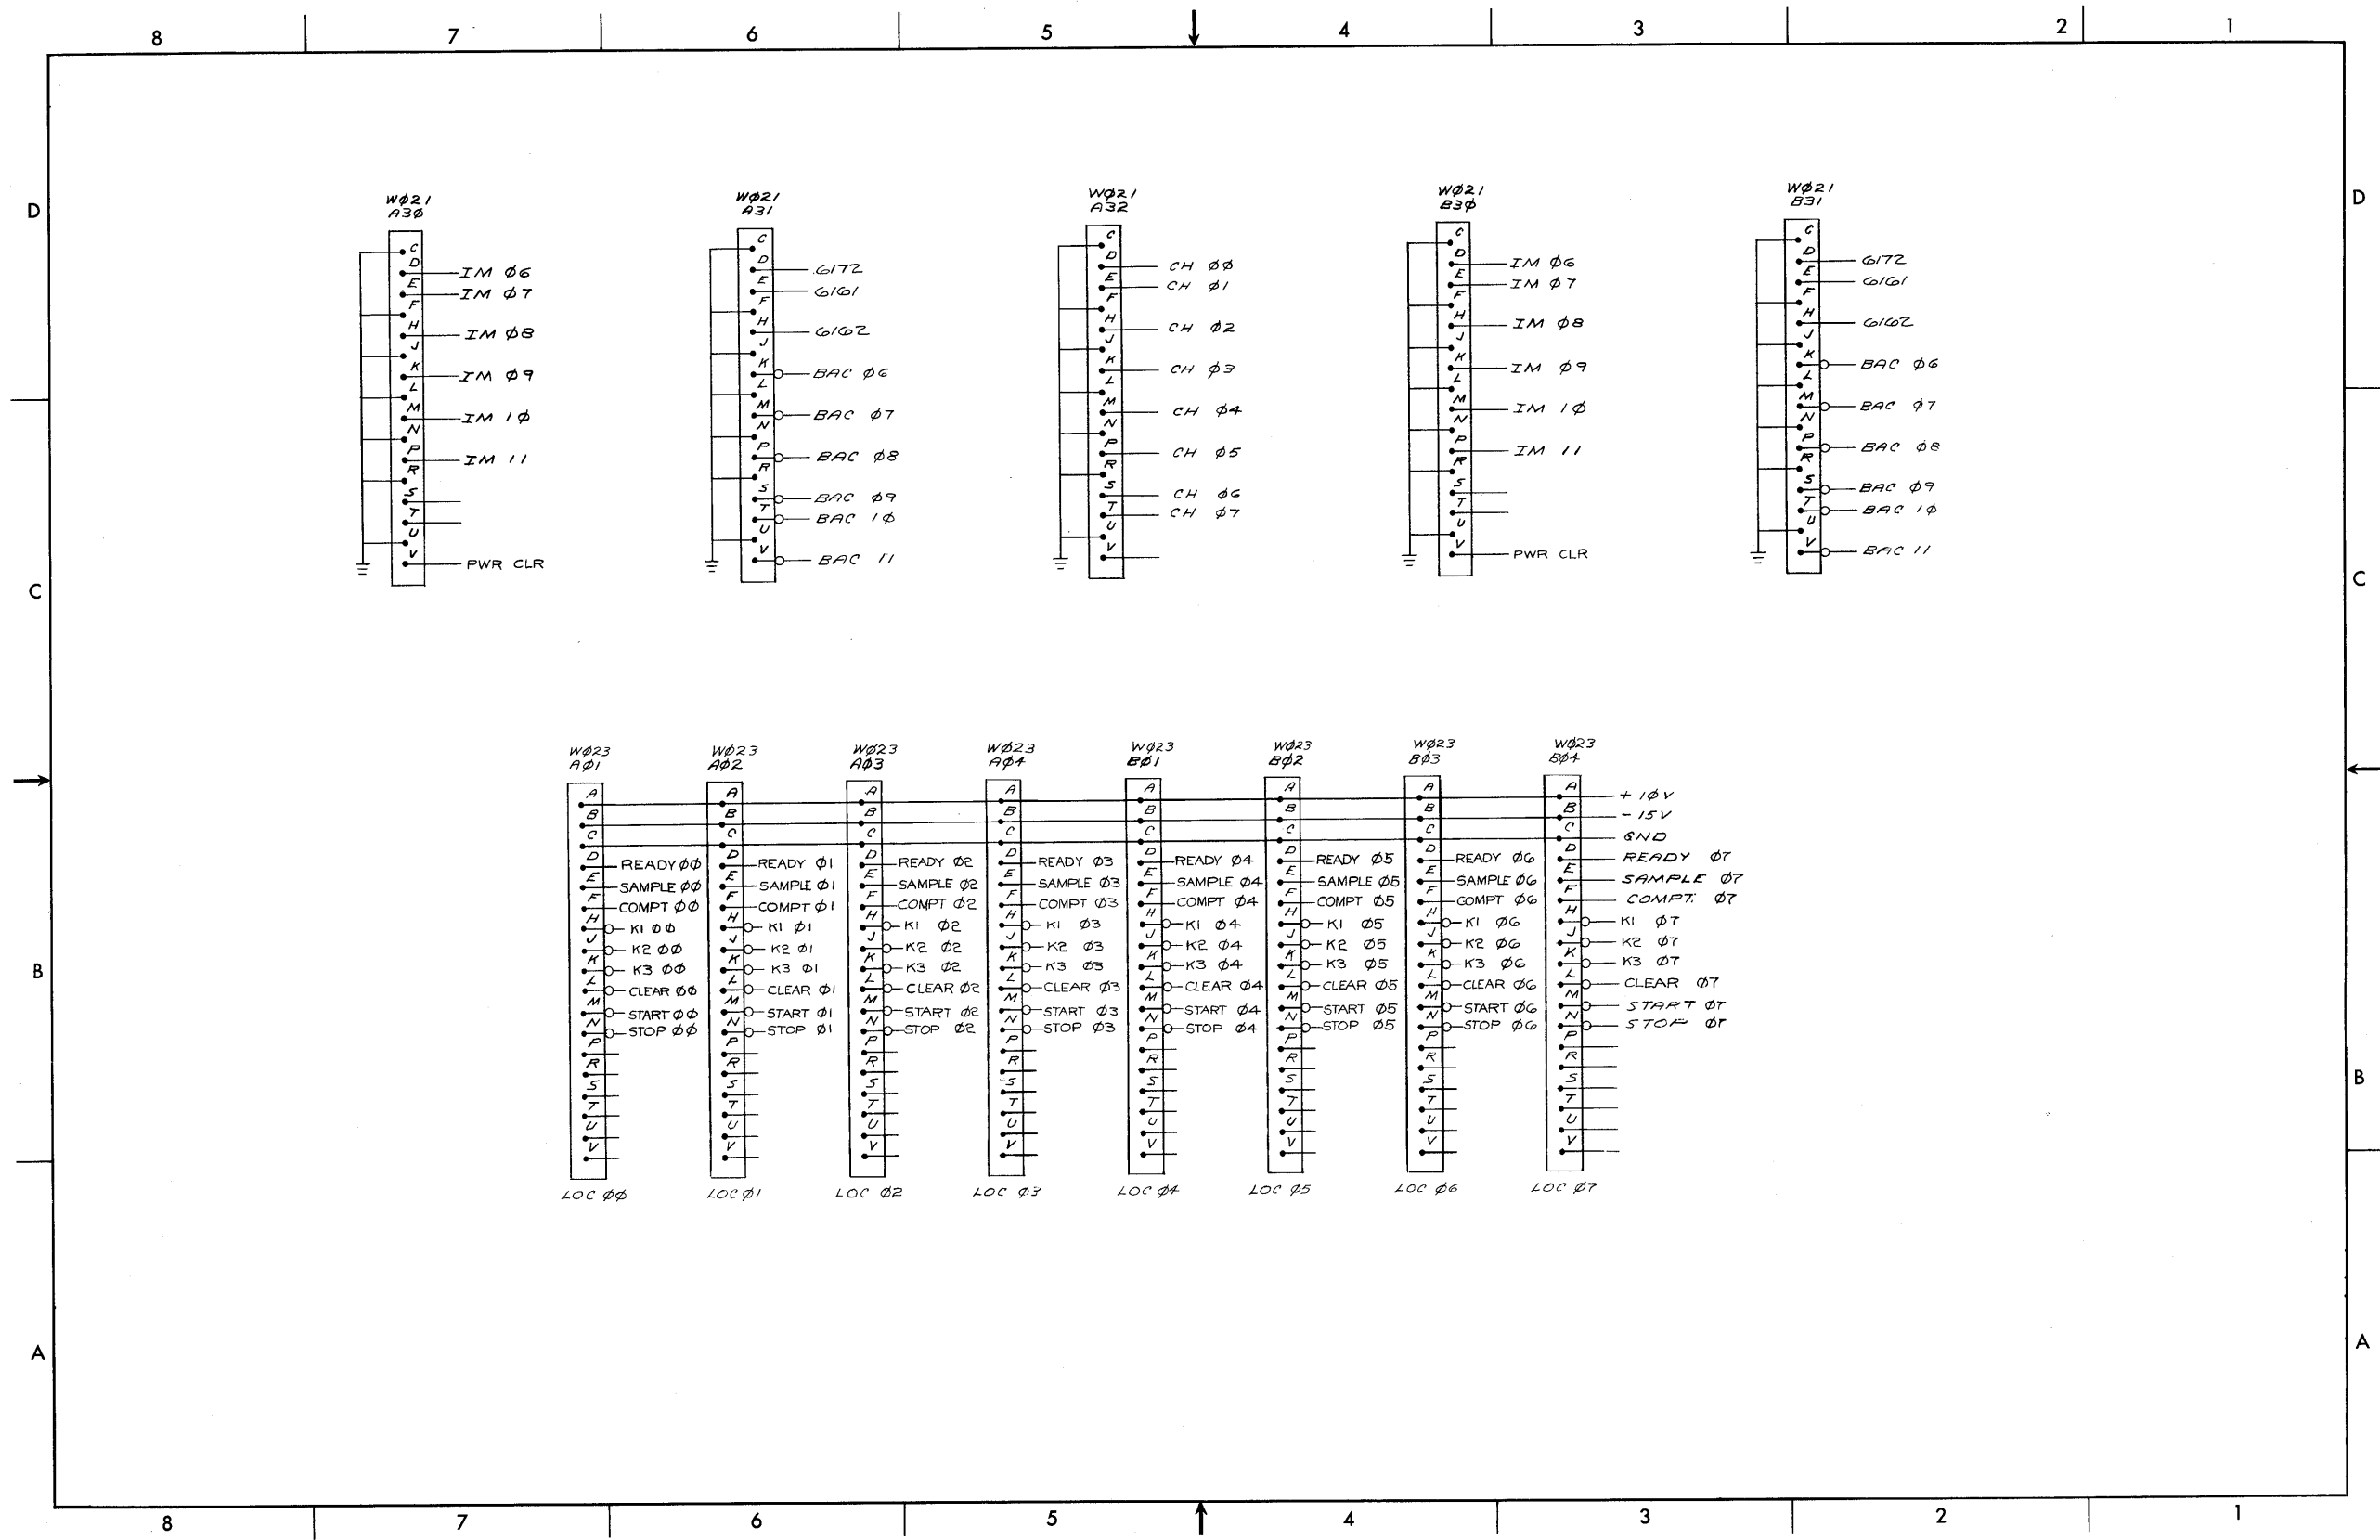

Figure 6-10 D-IC-AF17-0-4 H300 and H301 LOC Control Cable Diagram
- Figure 6-10 H300 and H301 LOC Control Cable Diagram (D-IC-AF17-0-4)